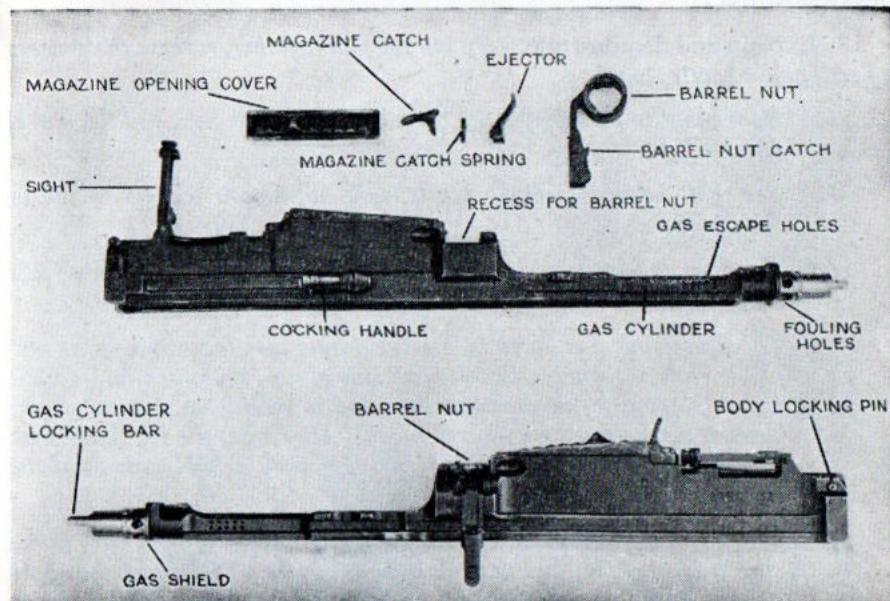

Fig 5.—The body and the bipod group
16. The body and bipod group (see Fig 5).—To take the body and bipod apart, hold the bipod; turn the body to the left, and pull it out of the bipod sleeve.